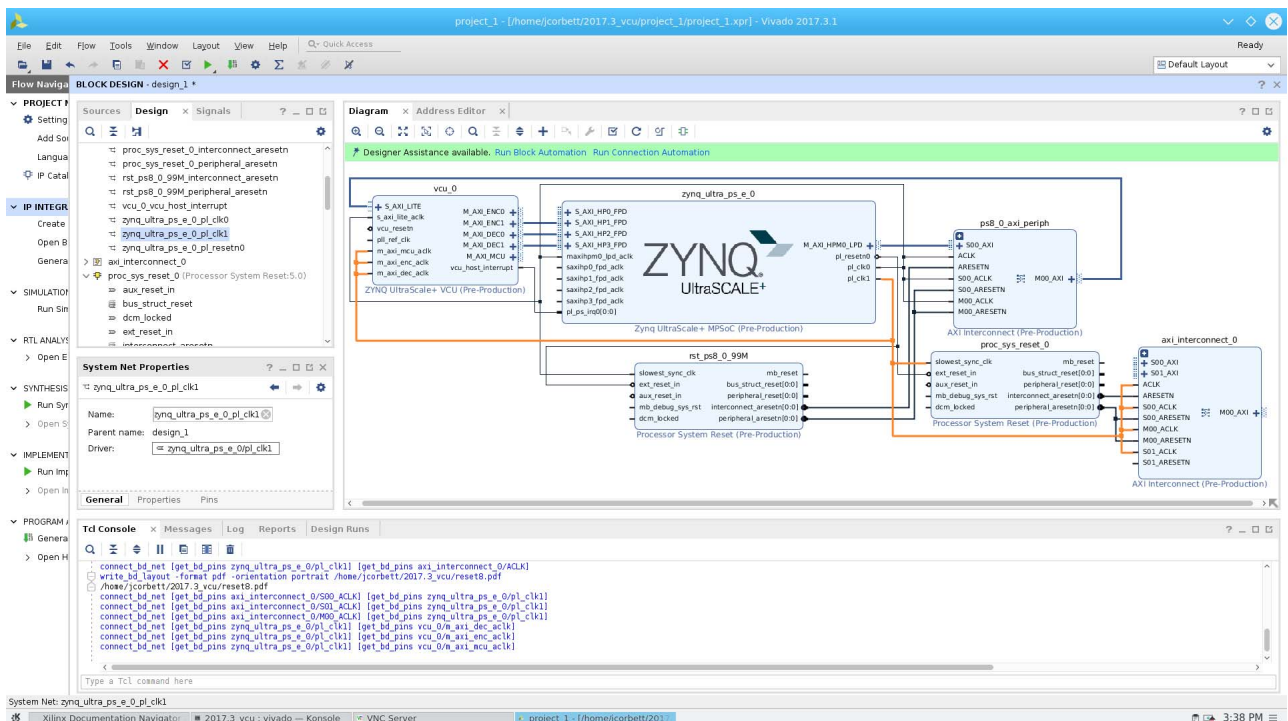

Figure 11-14: Diagram
- Use **peripheral_aresetn** port as a reset input to the **S00_ARESETN**, **S01_ARESETN**, and **M00_ARESETN** ports as shown in Figure 11-14.